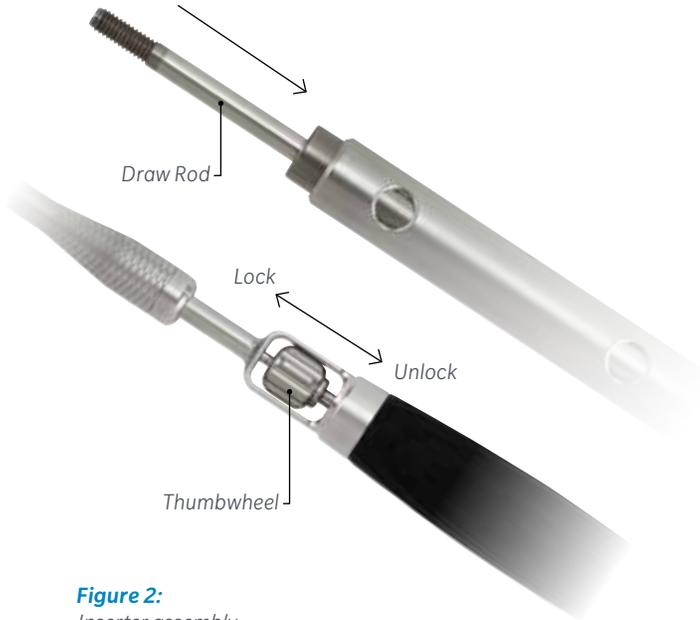

Figure 2:
- Assemble the inserter handle by inserting the inserter handle draw rod through the center of the inserter (Figure 2).